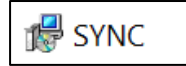

Figure 1
Step 2: Click the **SYNC.msi** file (**Figure 1**) and proceed through the setup (**Figure 2**) to launch SYNC for the first time.